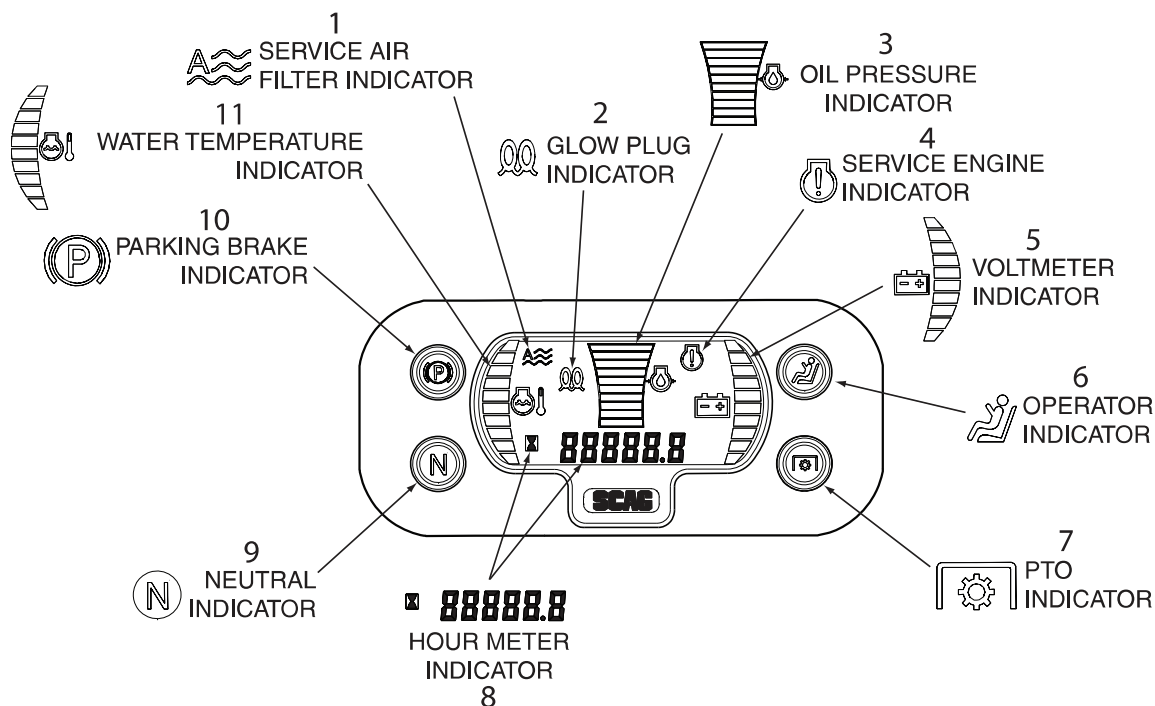

Figure 4-1. Tiger Eye Advanced Monitoring System
1. **Service Air Filter Indicator (Figure 4-1). Optional Accessory.** Indicates the condition of the engine air filter. Icon will display when it is time to change the air filter.
2. **Glow Plug Indicator (Figure 4-1). Used on Diesel Powered Units Only.** Indicator turns on when the key switch is turned to the PREHEAT position. Glow plugs must be preheated for 5 to 10 seconds before starting the engine.
3. **Oil Pressure Indicator (Figure 4-1). Used on Diesel Powered Units Only.** Indicates engine oil pressure. Reference the engine operator's manual for further information.
4. **Service Engine Indicator (Figure 4-1).** Indicates the maintenance reminder for the engine oil change. Has preset maintenance reminder and will start flashing scheduled maintenance 2 hours before preset time and continue flashing until 2 hours after. Automatically resets.
5. **Voltmeter Indicator (Figure 4-1).** Indicates the condition of the charging system. When the engine is running, in normal operating conditions, the bar graph should be in the 12 to 14 volt range.
6. **Operator Indicator (Figure 4-1).** Light will illuminate when the operator is on the platform engaging the operator presence switch.
7. **PTO Indicator (Figure 4-1).** Light will illuminate when the PTO (mower deck) switch is in the OFF position.
8. **Hourmeter Indicator (Figure 4-1).** Indicates the number of hours the engine has been operated. It only operates when the engine is running. Will start flashing with the Service Engine Indicator at scheduled maintenance 2 hours before preset time and continue flashing until 2 hours after. Automatically resets.
9. **Neutral Indicator (Figure 4-1).** Light will illuminate when the steering control levers are in the neutral lock position.
10. **Park Brake Indicator (Figure 4-1).** Light will illuminate when the park brake is in the engaged (ON) position.
11. **Water Temperature Indicator (Figure 4-1). Used on Liquid Cooled Models Only.** Indicates the operating temperature of the engine. If the engine temperature exceeds the maximum preset value, the indicator will flash and the Park Brake, PTO, Seat and Neutral indicator lights will flash in an alternating pattern.